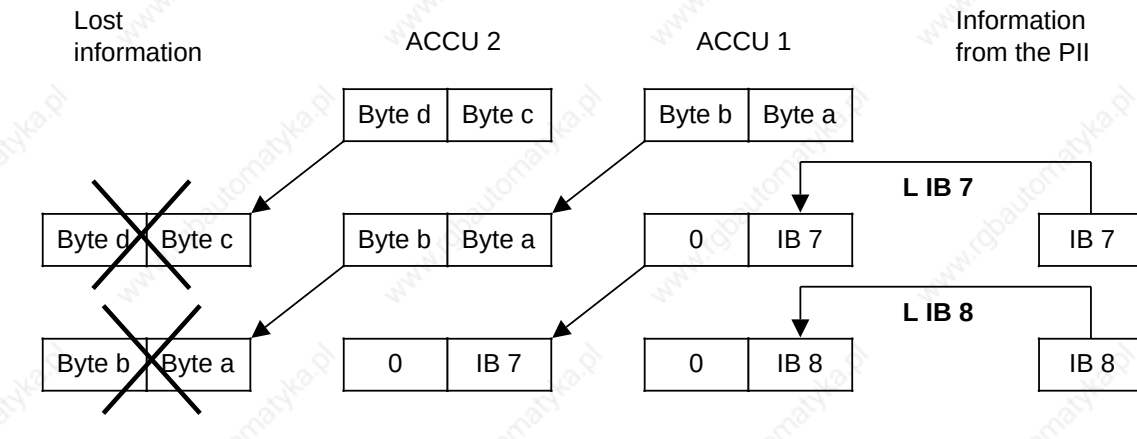

**Figure 8-2. Execution of the Load Operation**
**Example:** Two consecutive bytes (IB 7 and IB 8) are loaded from the PII into the accumulator. Loading does not change the PII (see Figure 8-2).